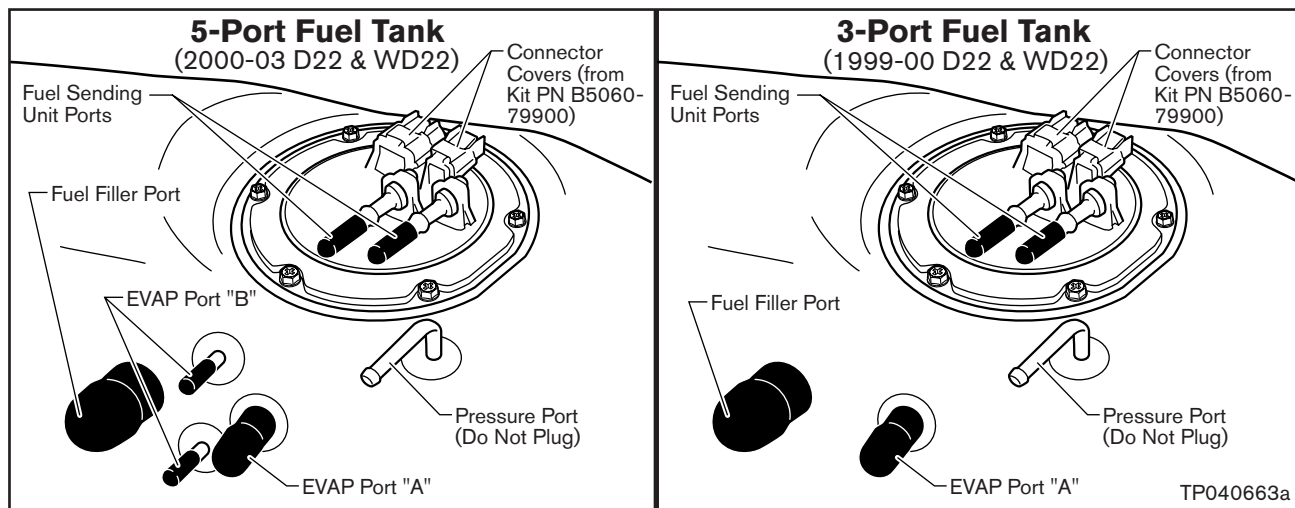

Figure 13
4. Plug all Fuel Tank openings, except the Pressure Port (see Figure 13).
5. Install the Connector Covers (from Kit #B5060-79900) onto the Fuel Sending Unit Connectors until they are fully seated (see Figure 13).